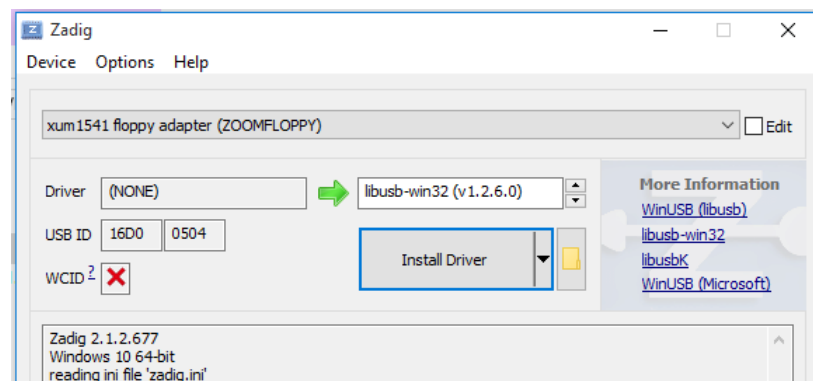

Figure 3: zadig settings for installing an xum1541 device
- **XUM1541 + ZoomFloppy only:** Make sure that zadig tells you it found the "xum1541 floppy adapter", and that it wants to install the libusb-win32 driver. The USB id is 16D0 (vendor) and 0504 (product). Your screen should look like figure 3 ().